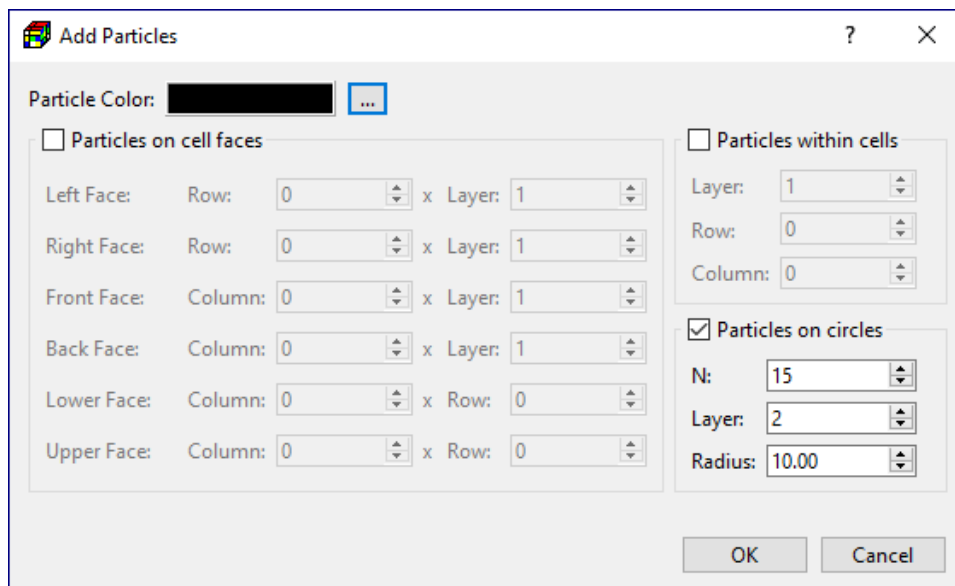

Figure 12. Adding particles on circles with the Add Particles dialog box
- Release the left mouse button. The Add Particles dialog box appears. Assign the settings and numbers of particles to the dialog box as shown in Figure 12. When finished, click OK to close the dialog box.